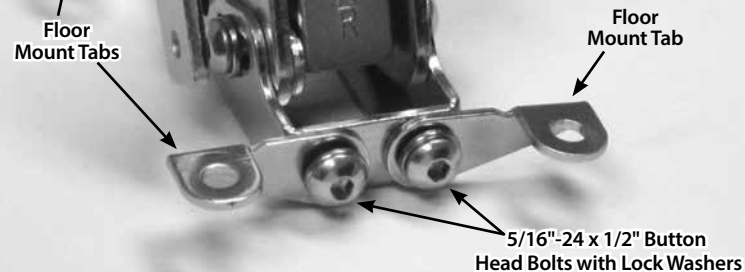

Fig. 2
Step 3: There are two pairs of floor mount tabs in the Shifter Kit. Which pair goes where will depend on if you are mounting the Shifter above or below the floor. See **Fig. 2** to determine how the floor mount tabs need to be positioned for your particular application.
Attach the floor mount tabs to the floor mount mounting bracket as shown in **Fig. 2** with the 5/16"-24 x 1/2" button head bolts and lock washers. Leave the bolts loose enough so that adjustments can be made later during the installation.